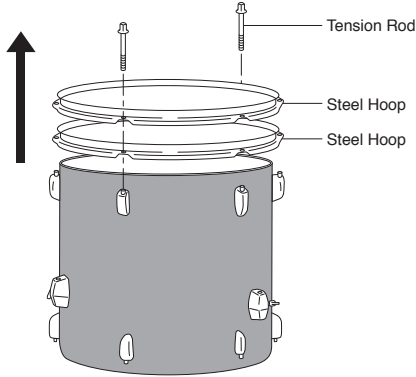

Fig.6
1. Loosen and remove the two tension rods and hoops, as shown (Fig.6). Retain the tension rods for the drum head and hoop installation.